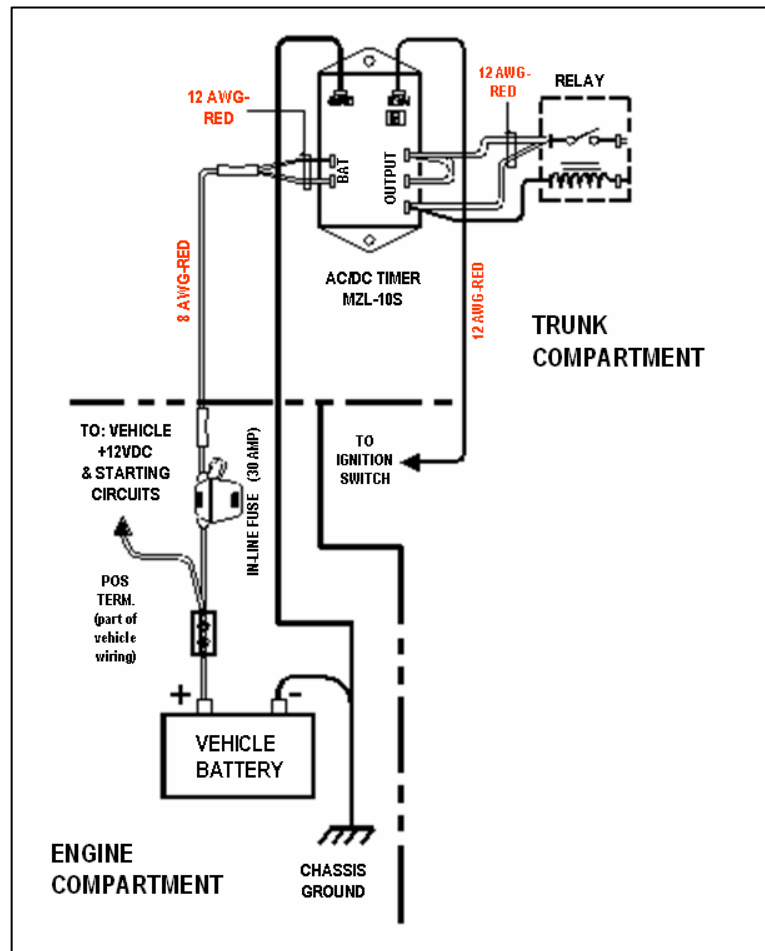

Figure 9: Delay Timer Installation
Step 2 Route the black wire (#12 AWG) from ground connection on the Delay Timer to the vehicle chassis (see Figure 9).